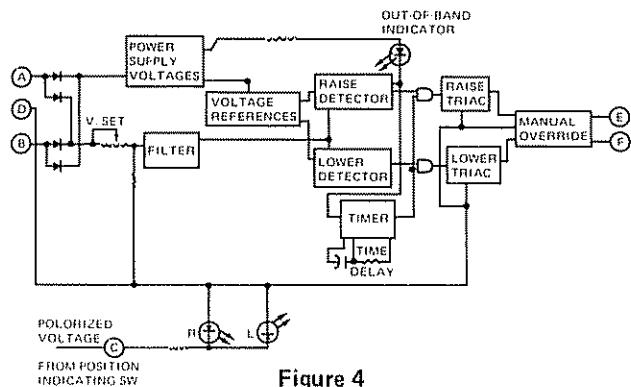
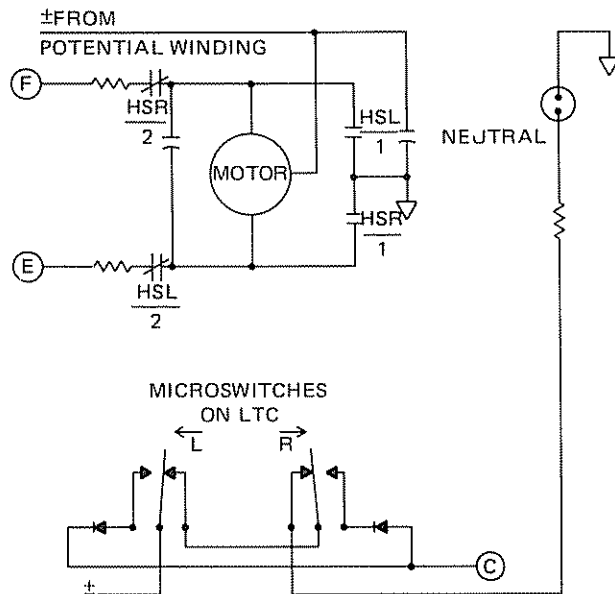
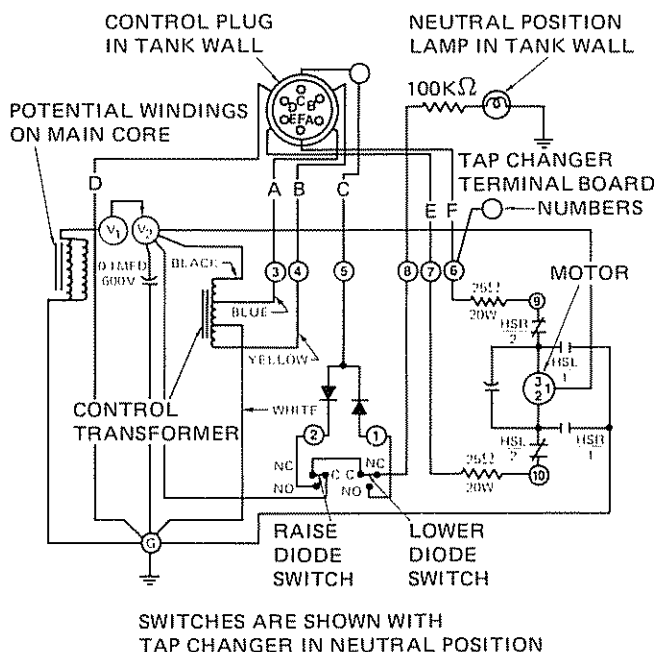

Figure 4
Figure 5
Figure 6
The control circuit (Figure 4) provides automatic or manual control of the tap changer. A MANUAL/AUTO switch provides these positions in sequence: LOWER, OFF, AUTO, OFF, RAISE. In the AUTO position, the drive motor (Figure 5) returns are connected to the output triacs of the AUTO control (Items E and F). In other positions, the motor is disconnected from the AUTO control and the proper motor return is connected to ground to run the drive motor in the indicated direction.
In the AUTO mode, the voltage from the potential winding is compared with a preset desired level. If the voltage falls outside a band of ± 1 volt at 120 V from the preset value, a time-delay sequence is initiated. At the end of the delay time, the proper triac is fired to drive the tap changer in a corrective direction. The control action is outlined in Figure 4 in conjunction with Figure 5.
A special control transformer connected to the potential winding yields a split supply to the control, which is one-half the potential winding voltage each side of ground (Figure 6). Two diode rectifiers are connected to this center tapped supply (Figure 4). One provides power to the circuit; the other, supplies a sensing voltage through a resistive divider.
The motor circuit (Figure 5) provides for a holding switch closure (HSL or HSR) to assure completion of a tap change. Resistors are provided in the triac returns from the motor to limit the triac current to an acceptable level under all conditions. (The triacs only have to initiate a tap change during which the motor torque requirements are low. The holding switch provides current for the higher torque required during the change.)
A pair of microswitches, connected as shown in Figure 5, is coupled mechanically to the tap changer reversing switch. When the reversing switch is centered (neutral), the supply from the sensing winding is fed through a series connection of the microswitches to the neutral light mounted on the tank.
If the reversing switch is off neutral, one of the microswitches is transferred. On one side, the supply is half-wave rectified by a diode to form positive pulses; on the other side, it is half-wave rectified by another diode to form negative pulses. The pulses (positive or negative) are fed through a current-limiting resistor to a pair of reverse connected parallel LED's (Item C, Figures 4 and 5). Positive pulses light one of the LED's, negative pulses light the other; indicating the L and R positions on the LEDs. In the neutral position, neither the L nor the R LED lights. Neutral is indicated by the tank-mounted light with—or without—the presence of a control.
- C. Remove the handhole cover and, reaching through the handhole, pull the quick-disconnect terminal from the V_2 terminal on the tap changer terminal board (Figure 6), disconnecting the tap changer and control from the internal potential source